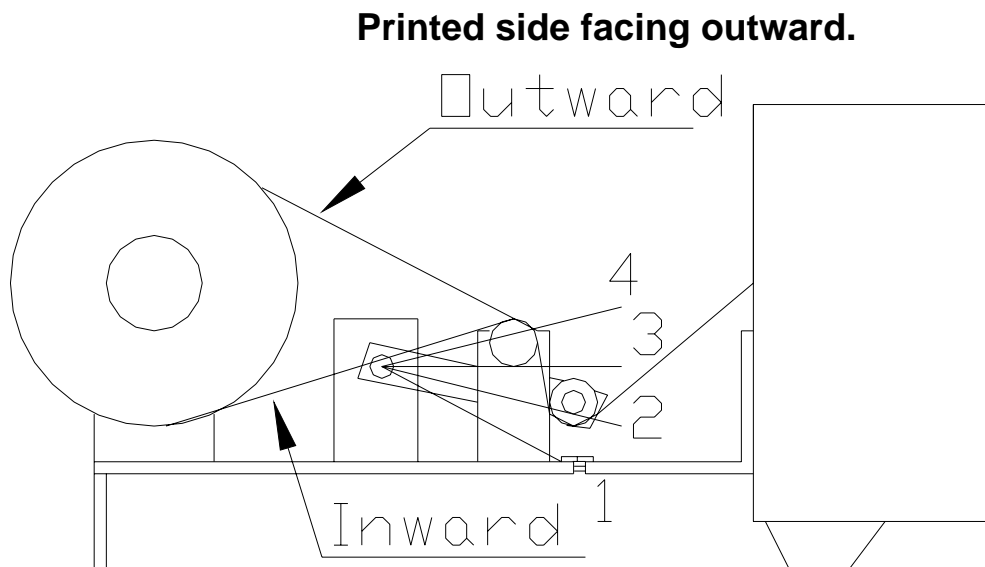

Figure 3
- Route the paper in the direction in figure 3.
- If the rewinder does not start rotating when the power is switched on, lift the tension bar to position 2, see figure 3.